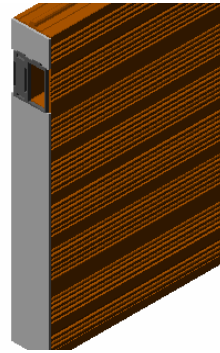

fig. 3
3. To assembly the bricks, Hispalam mortar is spread all over the cells side of the brick, preventing it from entering in the open cell where the **PASATUBOS** is placed (see fig. 3)